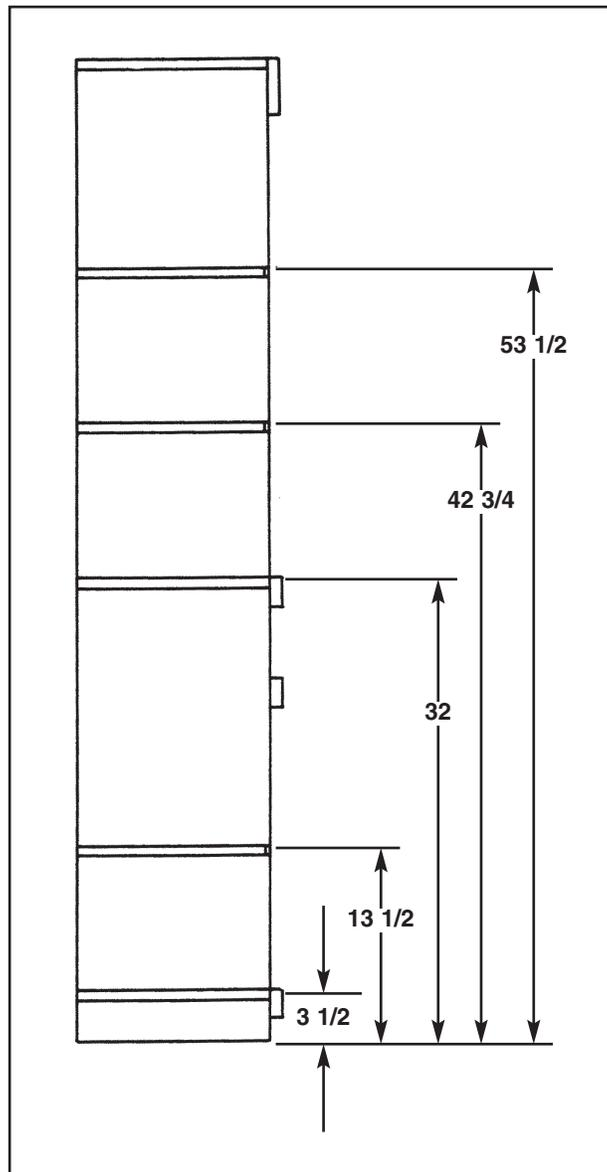

Figure 1
1. Attach boards (A) to boards (B) using glue and 1 1/4" finish nails. Refer to Isometric.
2. Rout a 1/4" by 3/8" wide rabbet around inside back edge of subassembly (A, B) for board (J). Refer to Isometric.
3. Attach trim pieces (E) to leading edges of boards (D) using glue and 1 1/4" finish nails. Refer to Isometric.
4. Attach shelves (D, E) and (C) to subassembly (A, B) using glue and 1 1/4" finish nails. Refer to Figure 1 and Isometric.